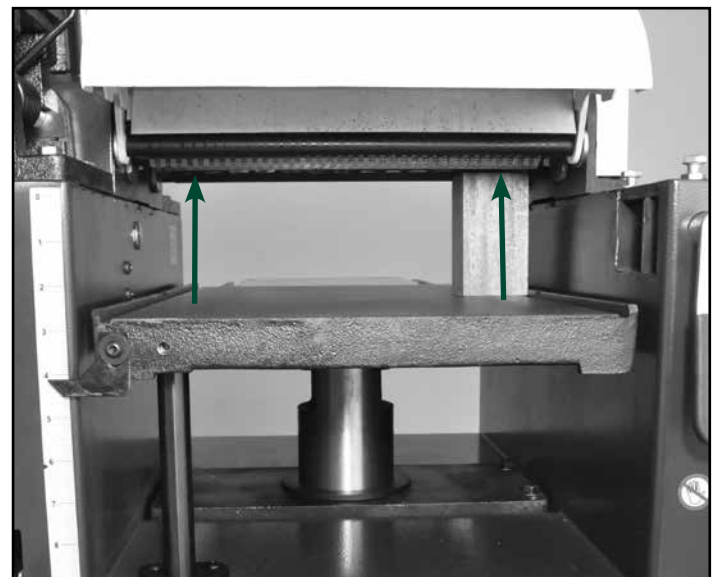

FIG. 25
4. Place a Gauge Block, or other measuring tool, onto the planer table, directly under the cutterhead. FIG. 25.